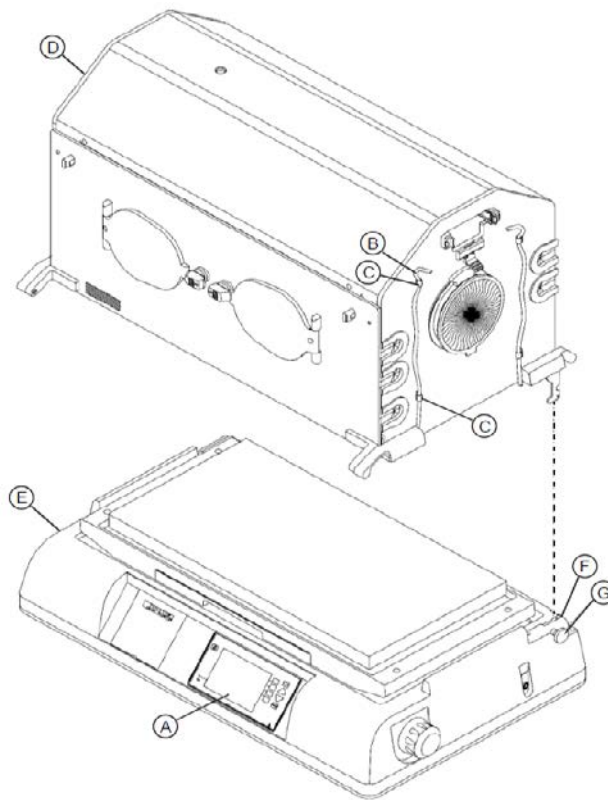

Fig. 64 Hood Assembly
- 5 Unplug the power cord from the back of the controller assembly (Fig. 64/A).
- 6 If installed, remove the scale connector cable (Fig. 64/B) from the cable clamps (Fig. 64/C) on the end of the hood assembly (Fig. 64/D).
- 7 Tilt the hood assembly (Fig. 64/D) back until it is fully open.
- 8 Stand one person behind the incubator at each end of the hood assembly (Fig. 64/D), and have each person lift their end of the hood assembly (Fig. 64/D) straight up from the upper shell assembly (Fig. 64/E). The person at the sensor module end of the hood assembly (Fig. 64/D) **must** release the knob (Fig. 64/G) while lifting.
- 9 Carefully remove the hood assembly (Fig. 64/D) from the unit.